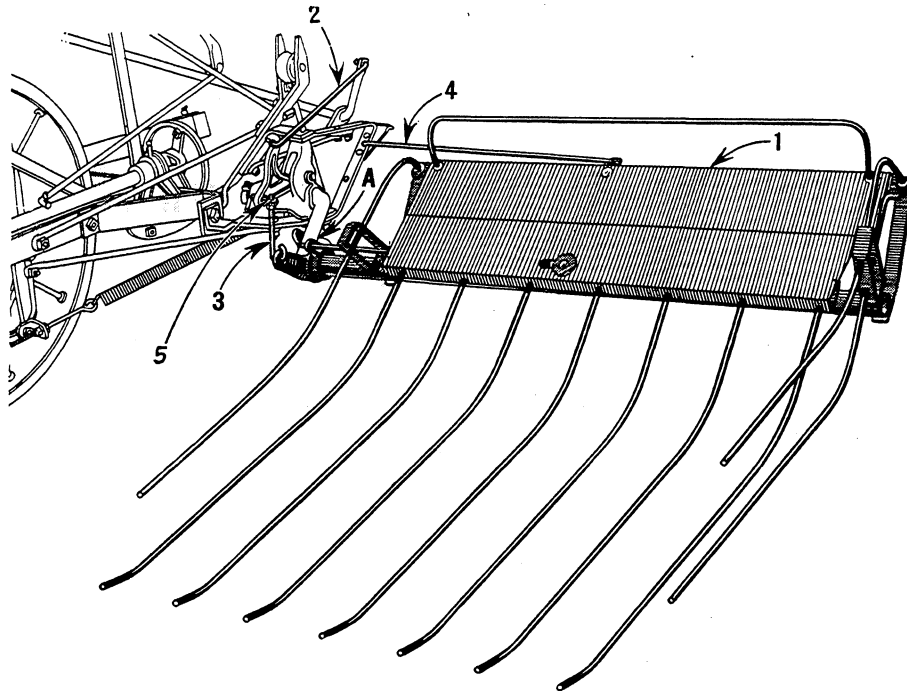

Figure 86
1. (Figure 86) Slip bundle carrier onto crank at "A."
2. (Figure 86) Fasten connecting link to dump crank with cotter pin.
3. (Figure 86) Connect raising link to raising crank and fasten with cotter pin.
4. (Figure 86) Attach tooth paralleling rod.
6. Bundle carrier can be quickly removed by disconnecting rods "3" and "4" and tilting carrier back until hook "A," Figure 86, clears dump crank.